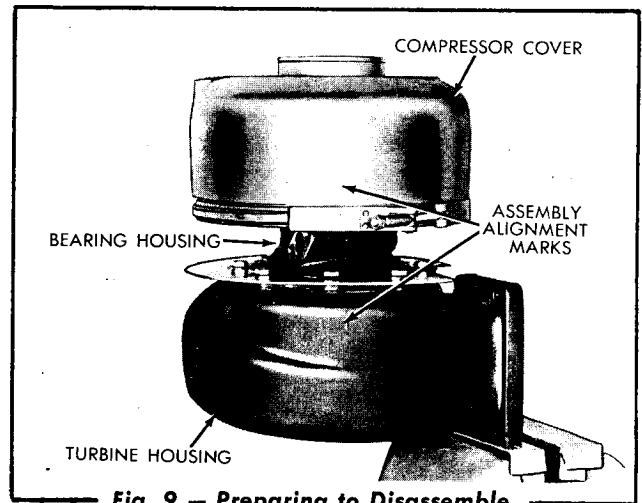

Fig. 9 — Preparing to Disassemble Turbocharger
- a. Clamp unit in vise by turbine housing flange (Fig. 9).
- (1) Clamp unit in vise by turbine mounting flange and mark relative position of compressor housing to bearing housing. Refer to Fig. 9.
- (2) Remove cover clamp and remove compressor cover and compressor gasket (large).
- (3) Remove O-Ring from compressor extension assembly.